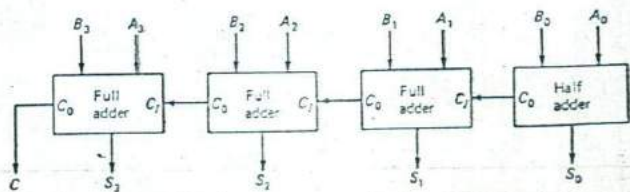

Fig. 11-40 Four-bit parallel adder with ripple carry.
A 4-bit parallel adder with ripple carry is illustrated by Fig. 11-40. It is constructed from one half-adder and three full-adders. A half-adder is sufficient for adding the LSB of the augend to the LSB of the addend. However, all subsequent circuits must be full-adders because carries can be generated anywhere along the line. The carries ripple from stage to stage in this type of circuit. Under worst-case conditions, the correct sum will not be available until four propagation delays have occurred. For example:
38. Refer to Fig. 11-40. Adding binary 1010 to 0101 will produce a correct sum output in less time than when adding binary 0111 to 1011. (true or false)